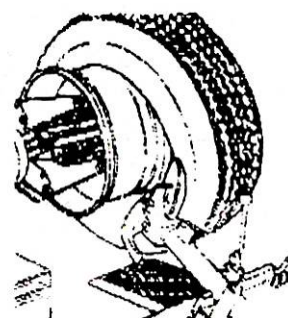

Fig2.5
- 6) We can use plate to remove the edge of the inside tire by pushing the edge of the tire out of the rim. Press the tire down. Make the plate between the rim and the edge of the tire. Turn the tire (Fig2.5). You can see crow to help you.